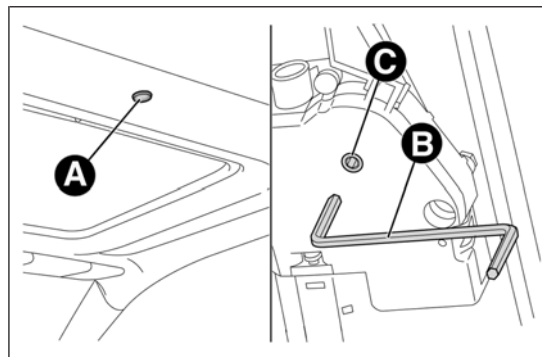

fig. 54
- ☐ remove the protective cap A fig. 54 located on the internal lining, between the two sun blinds;